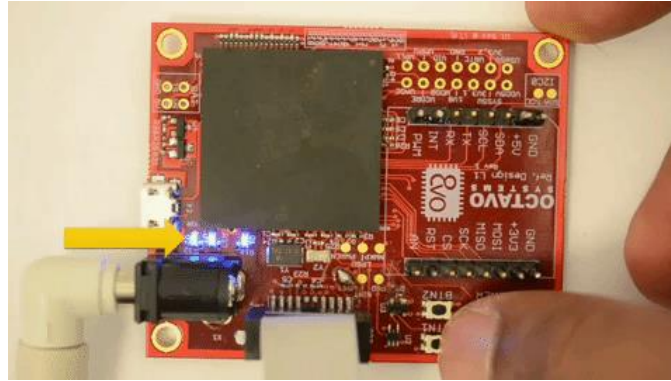

Figure 78 Demo App 1 in action
- Verify the functionality of Demo app 1 by pressing the user buttons BTN1 and BTN2 and observing the brightness of user LEDs D2 and D3 as shown in Figure 78.